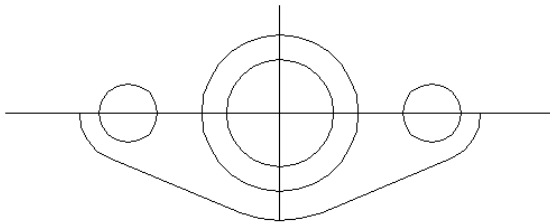

Figure 7-6: The partially completed sealing plate, created by using lines, circles, and arcs.
15. Save your drawing. Your drawing should look like Figure 7-6. You can complete this drawing in Chapter 10 by creating a mirror image.